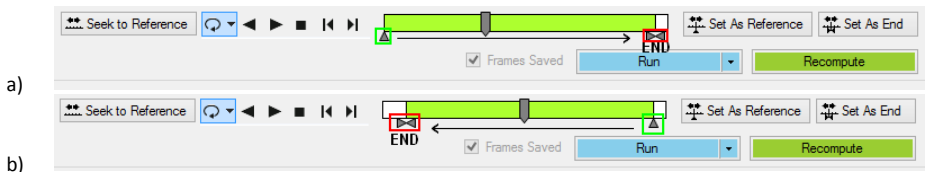

Figure 10: a) Forward and b) backward recomputation
- **Recompute / Stop** – Performs new computations using the recorded frames, beginning by the frame set as reference and stopping either on request or when it reaches the frame set as end of record. It is therefore possible to have the computation proceed in either the forward direction or backwards, as determined by the position of reference and end frame. The difference is indicated in Figure 10. If there is more than a single batch available in the opened measurement, an option is given to perform the computations using only the first frame of each batch. Please note that it is not possible to perform this action if saving of the recorded frames was disabled during the test.